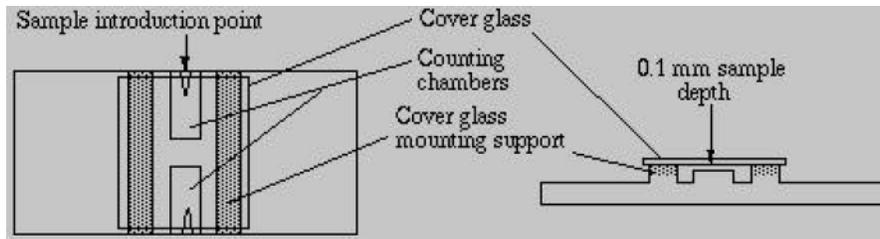

Figure 1: Diagram of hemacytometer and cover glass
- 9.1. Figure 1: Diagram of hemacytometer and cover glass